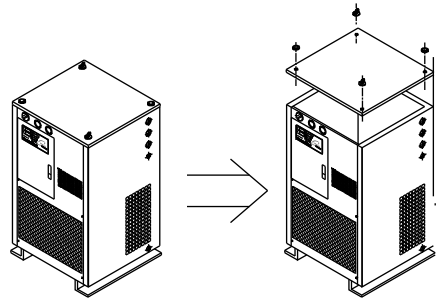

Figure 28
- c. Please refer to figure 28 to adjust the pressure switch setting after solve the AL-3 problem.